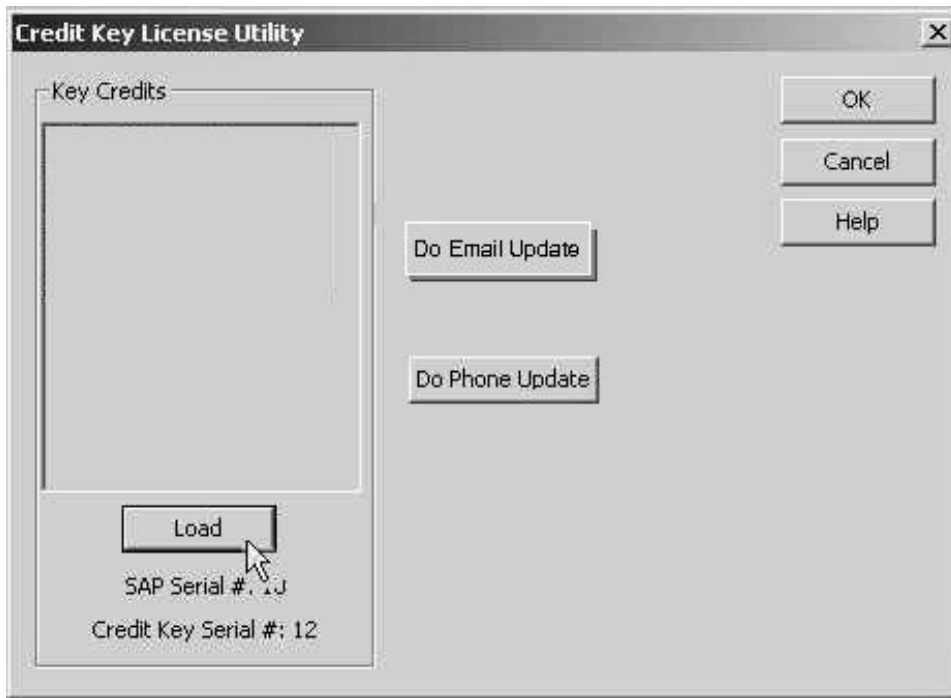

Figure 74 Loading Credit Key Status
5. Click **Load** to view available credits on USB Key (see Figure 74), when the Credit Key Status and Update Utility screen opens.